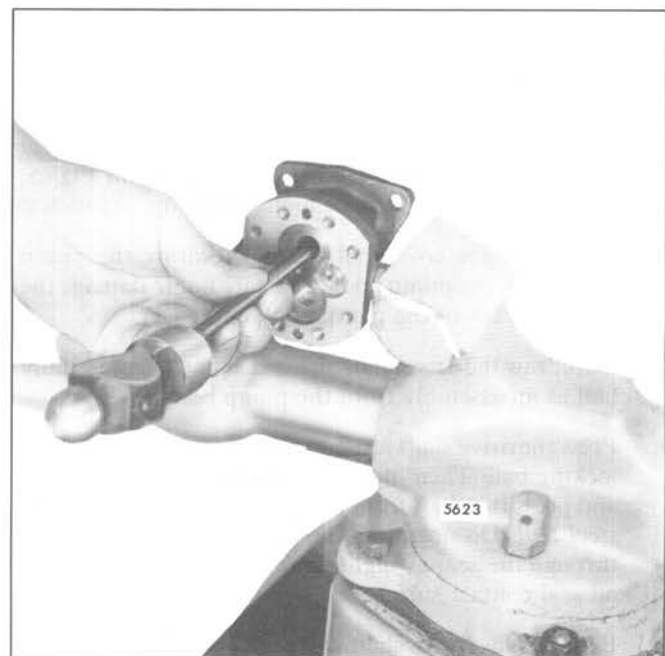

Fig. 6 – Removing Oil Seals using Tool J 1508-13
7. If the oil seals need replacing, remove them with oil seal remover J 1508-13 (Fig. 6). Clamp the pump body in a bench vise and tap the end of the tool with a hammer to remove the outer and inner seals.